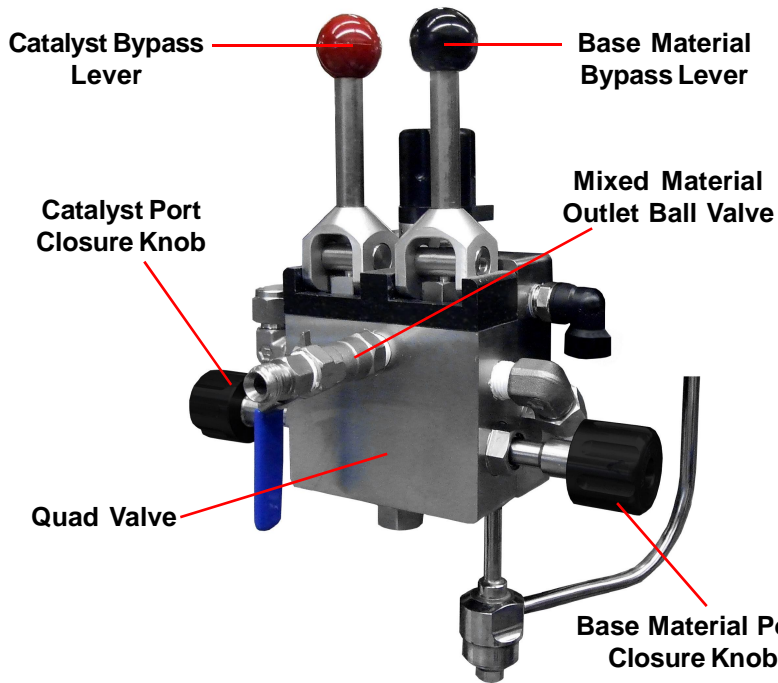

figure 2
3. Attach fluid hose (YELLOW HOSE) to the quad valve outlet and gun fluid inlet. (figure 2)
3. Close both the outlet to the fluid hose ball valve and the pressure relief ball valve. (figure 2)
4. Raise both material bypass levers to the vertical (up) position. (figure 2) This allows both materials to circulate back to their respective containers during priming.
6. Screw in the base material and catalyst port closure knobs. (figure 2)
9. Screw out the base material and catalyst port closure knobs. (figure 2)
12. Hold a waste container under the pressure relief valve (figure 2). Slowly open the valve and allow a small amount of material to flow. This allows pressure in the mix chamber to equalize and assures that no off ratio material is allowed to enter the fluid hose.
7. Screw in the catalyst port closure knob. (figure 2)
11. Screw out the catalyst port closure knob. (figure 2)